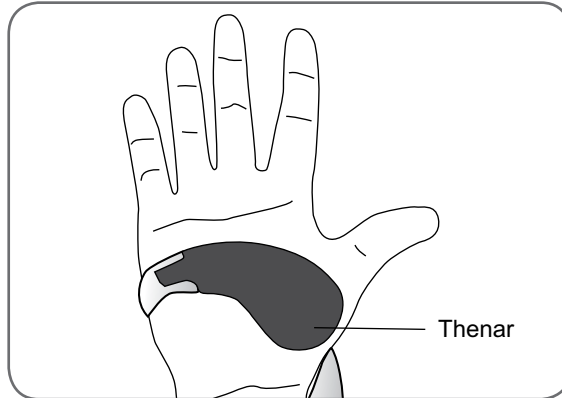

Figure 8-7: Positioning the Thenar
1. Position the Orthosis on a stable surface, and place your hand in the spiral end of the Orthosis. The Thenar (with attached Thenar Cloth Electrode) should rest at the base of your thumb. See Figure 8-7.